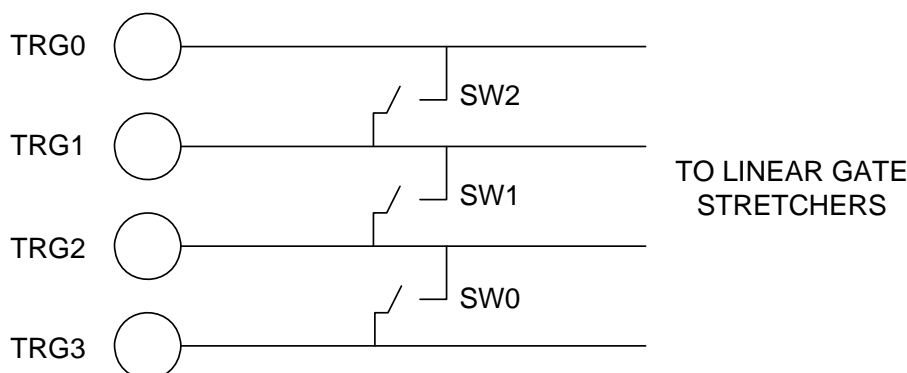

fig.2
When the sampling mode by external pulse is enabled, a front panel dip-switch selector allows the triggering of several channels by the same pulse (see fig 2).
- No 1 " TRG SEL ". If the sampling mode by external trigger is selected, it is possible to send the same trigger pulse to each channel that has been enabled by the relevant switch (only 3 switches are used, refer to fig. 2).